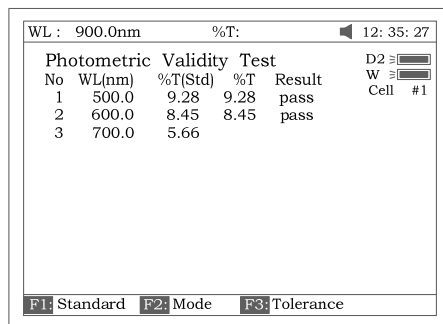

Fig 94
- Put the sample (calibrated neutral density filter) into the light path. Press **[START]** to check. The results will be displayed on the screen (Fig 94). If the discrepancy between the results and the calibrated standards is not more than the tolerance, "pass" will be displayed after the test result. Otherwise, "fail" will be displayed.